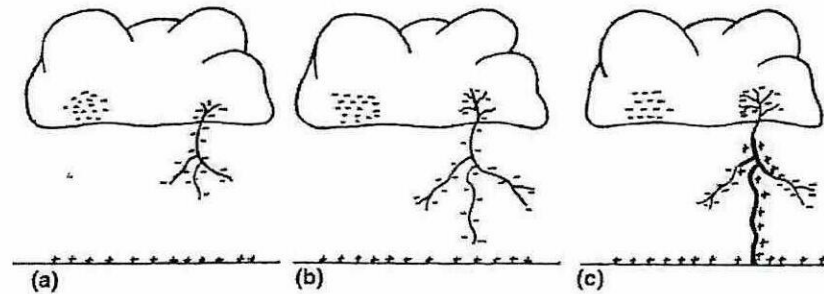

Figure Q4(c)
- (c) The lightning flashes may be created based on the interaction of charge separation took place in the thunderhead cloud. The creation of the flash can be divided into two groups; the first stroke and the second stroke phenomenon. **Figure Q4(c)** shows the cloud to ground conditions associated with the creation of first stroke phenomenon.
- (ii) Based on the illustration in Q4(c)(i) and in Figure Q4(c), briefly explain both the first stroke and second stroke phenomenon (6 marks)